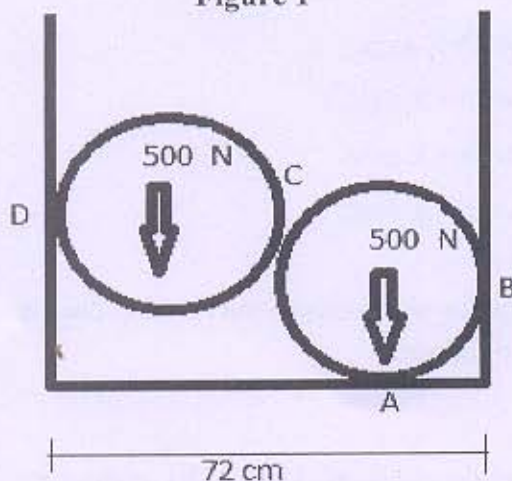

Figure 3
- (ii) Two cylinders, each of diameter 40cm and mass 500N, rest in a rectangle channel of base width 72cm. Find the reactions at all contact surfaces. Refer Figure 3.